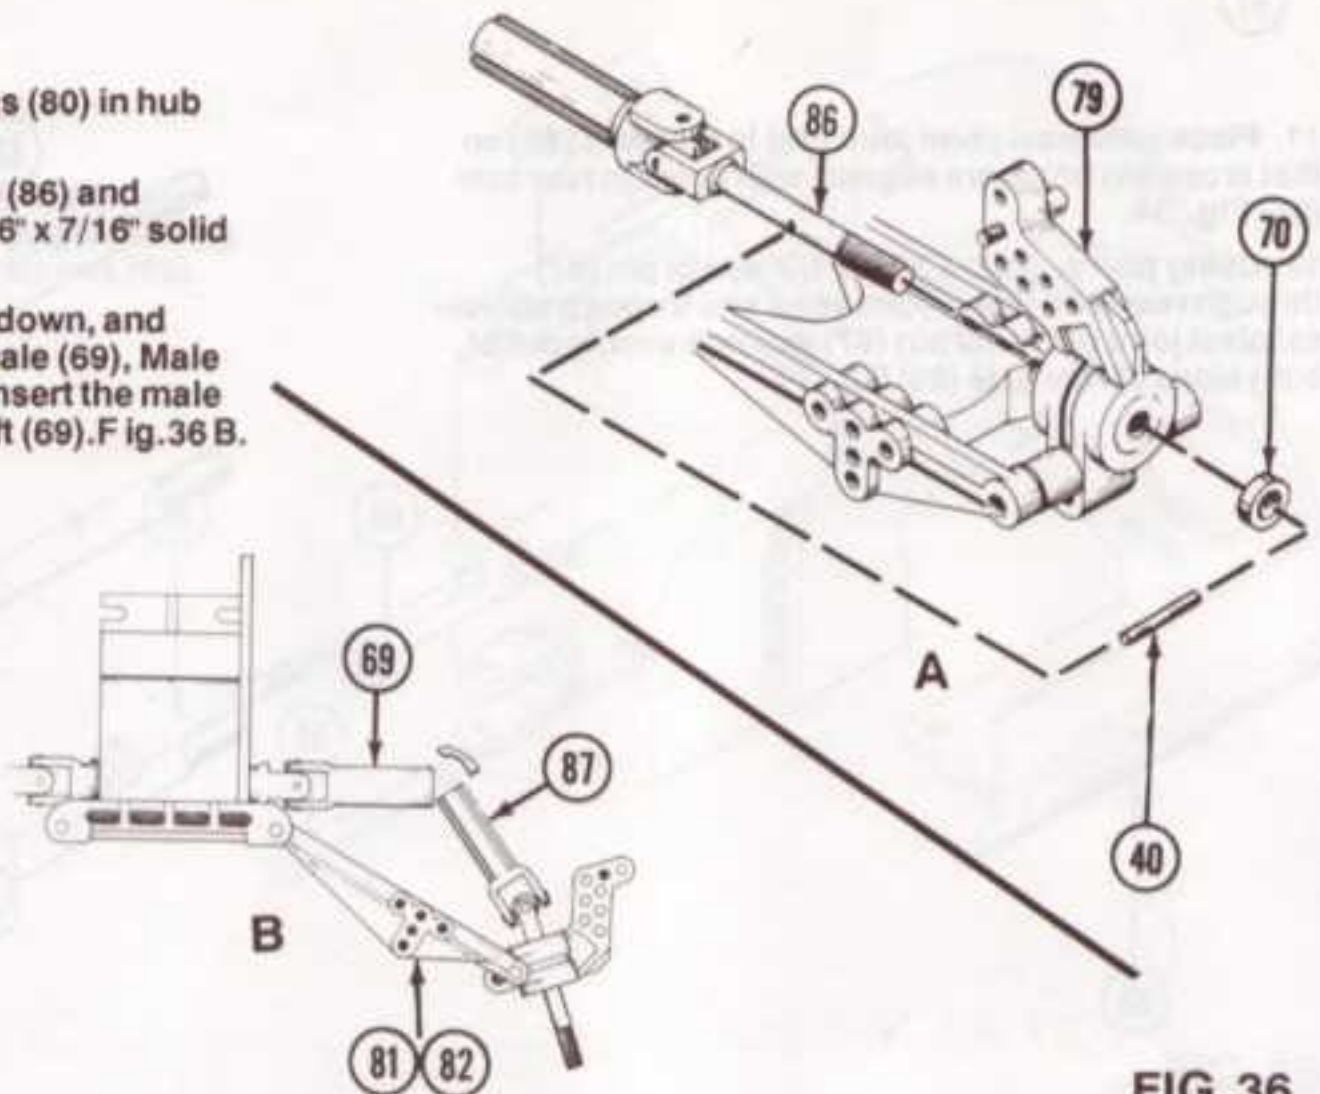

FIG. 36
14. Insert rear axle (86) through bushings (80) in hub carrier (79) as shown. Fig. 36 A.
15. Slide rear axle spacer (70) down axle (86) and secure axle (86) and spacer (70) with 1/16" x 7/16" solid pin (40). Fig. 36 A.
16. Let the H-arm (81) (82) hang straight down, and align the splines of the drive shafts [Female (69), Male (87)]. Swing the H-arm (81) (82) up and insert the male drive shaft (87) into the female drive shaft (69). Fig. 36 B.